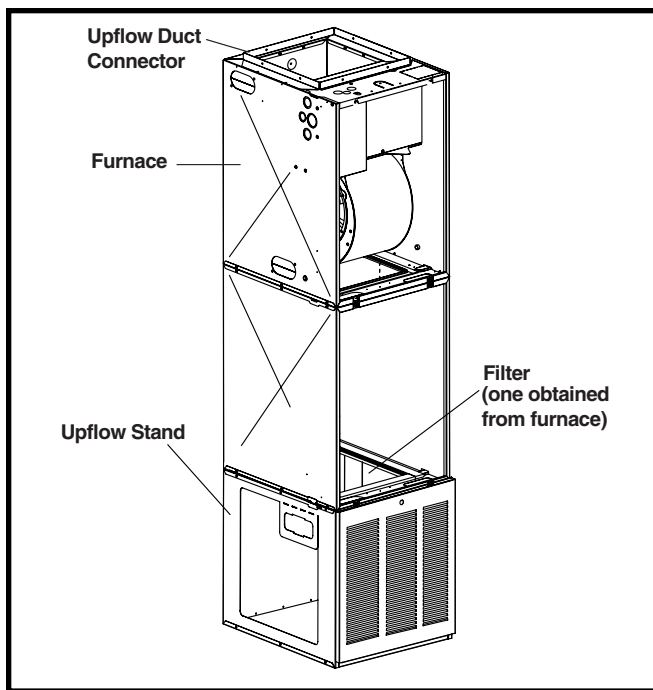

Figure 16. Over-the-Floor Return Air System with Upflow Stand
2. Use optional upflow stand (P/N 904620A) with filters or construct a suitably braced mounting platform in closet. See Figure 16 \(page 13\).
6. Use optional upflow duct connector or field supplied connector to attach furnace to overhead supply duct. See Figure 16.